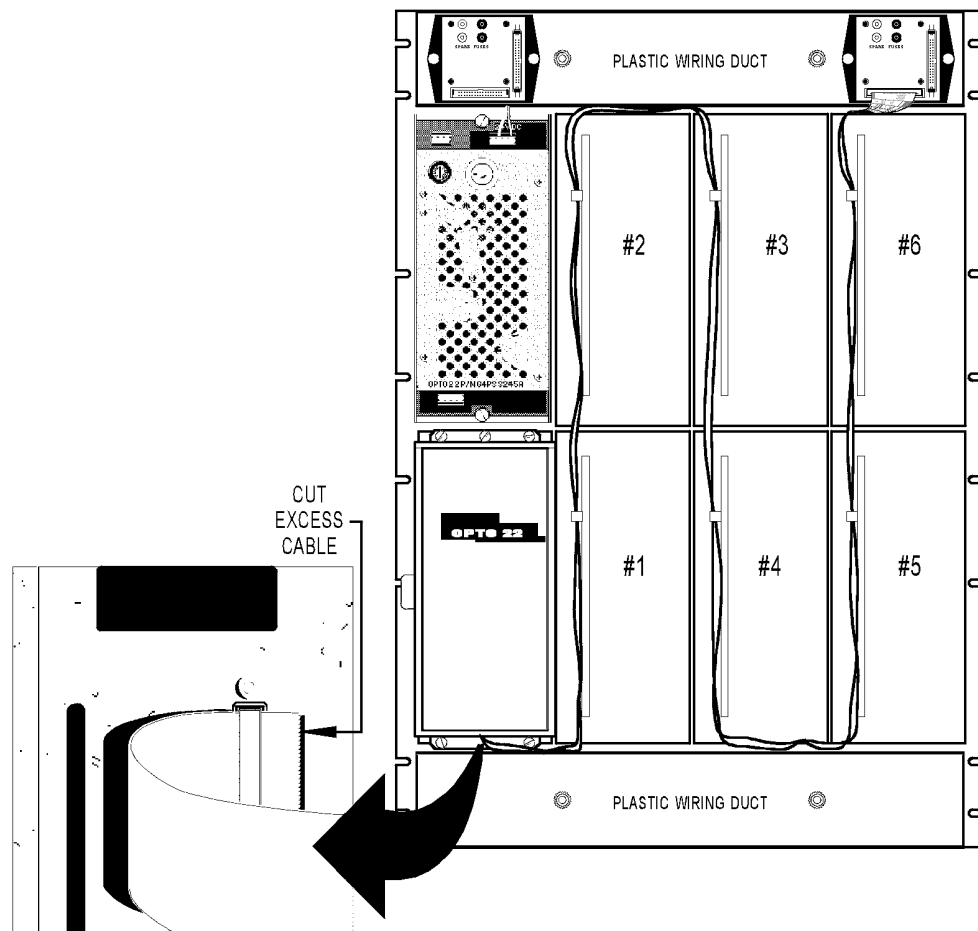

Figure 3-2: Local Bus Wiring for Panels with a Mystic Controller
1. Attach the third connector to the Mystic controller and cut off the first two connectors. See Figure 3-2.
4. If the panel is complete and there are additional panels or I/O bricks, attach the last connector to the right G4IOL board. See Figure 3-2.